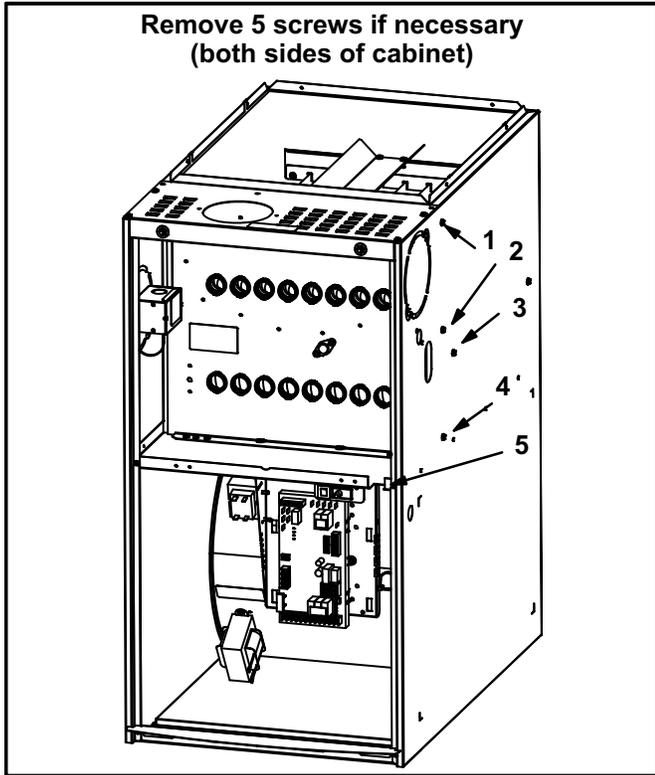

FIGURE 2
- 10- Remove heat exchanger. It may be necessary to spread cabinet side to allow more room. If so, remove five screws from the left side or right side of cabinet. See figure 2.